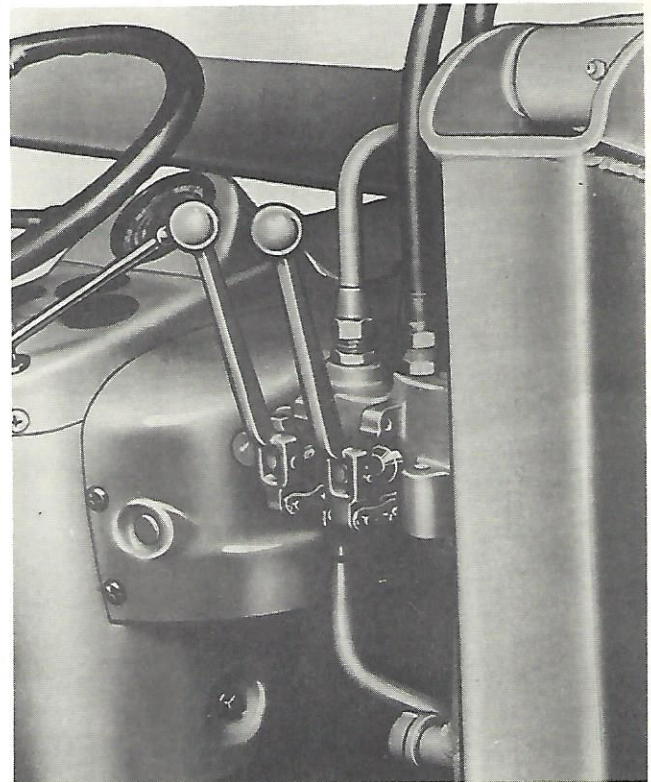

Figure 15
9. Attach the control valve handles in the position shown in Figure 15 with the clevis pins and cotter pins provided.